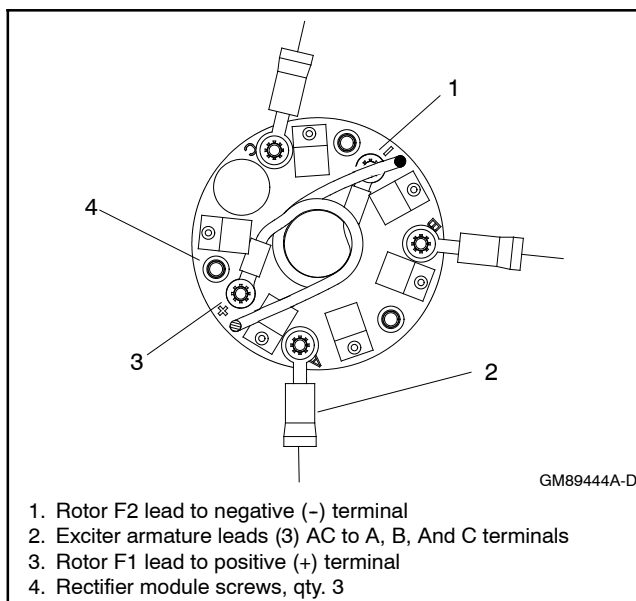

Figure 4-19 Rectifier Module Connections
13. Use screws and lock washers to install the rotor leads F1 and F2 to the rectifier module at the positive (+) and negative (-) terminals and torque to specifications. See Figure 4-19.
14. If the exciter armature is new, locate the exciter armature lead mounting locations on the rectifier module (see Figure 4-19) and cut the exciter armature leads to eliminate slack. Attach crimp-on terminals.